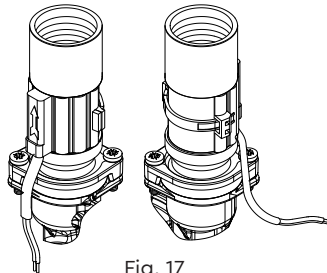

Fig. 17
- The tie wrap can now be pulled tight to secure the reed and excess cut to length as shown (Fig. 17)